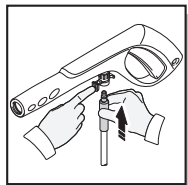

fig. 2
- Connect the other end of the high pressure hose to the spray gun by inserting the brass tip of the high pressure hose into the fitting just in front of the trigger guard. It will lock into place (fig. 2).